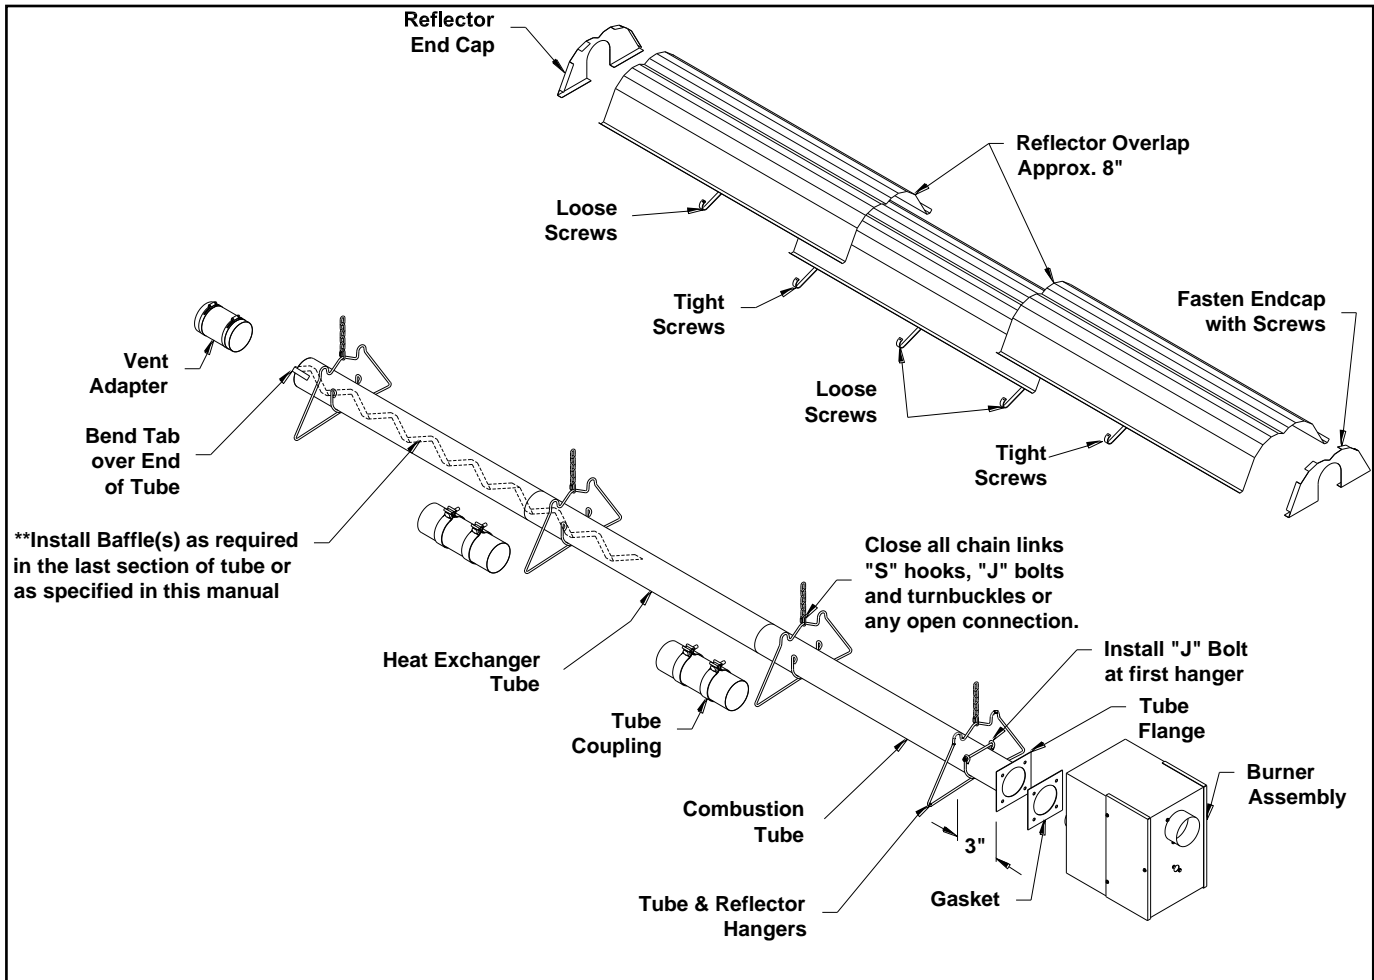
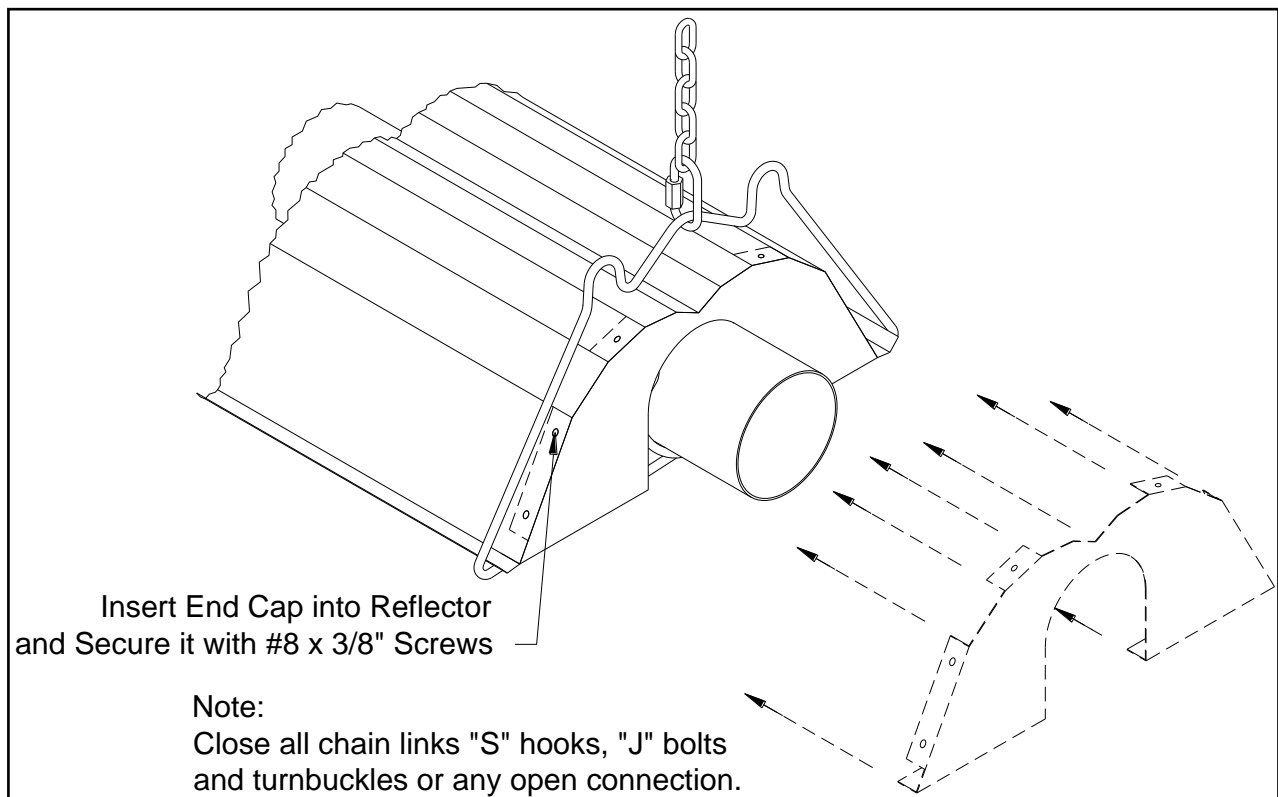

Figure 5: General Overview of Installation
Figure 18: Reflector End Cap Installation
Generally, there is no unique sequence for installation of the burner or heat exchanger. A review of the job site will usually indicate a logical installation order. However, time and expense can be saved if installation is begun at the most critical dimension, watching for interference from overhead doors, cranes, auto lifts etc. Figure 5 provides a general overview of the components utilized in the installation, as well as their general relationship.
- Install End Cap as shown in Figure 5 and Figure 18.